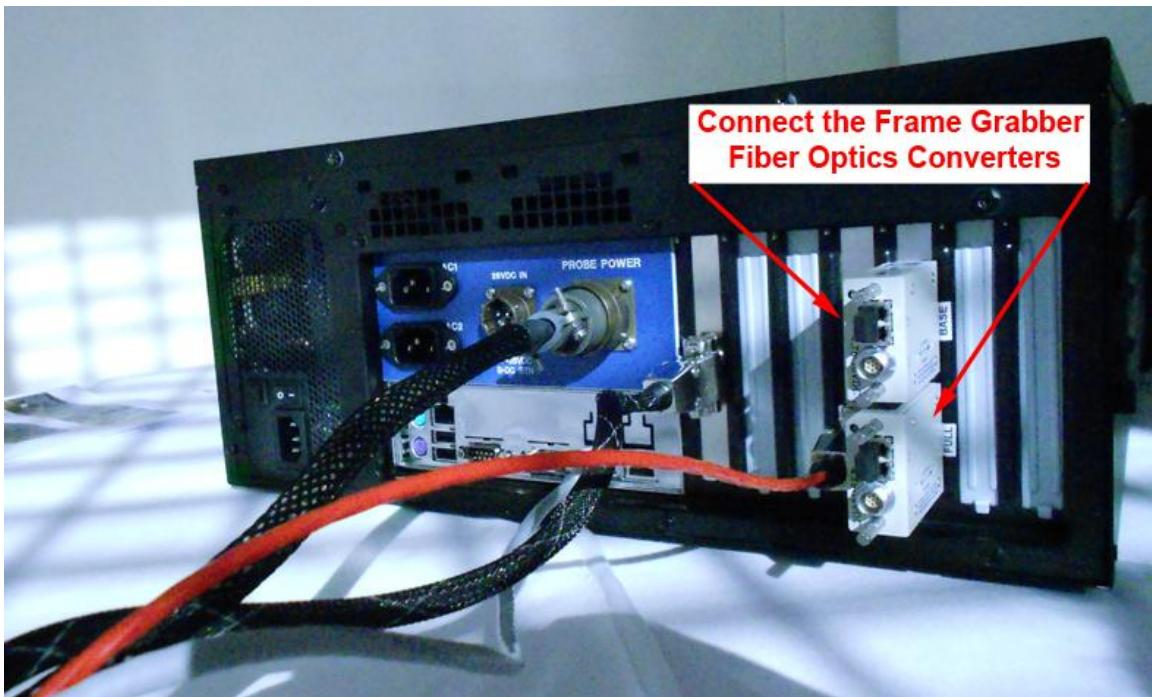

Figure 2.2.6 Connecting the Fiber Converters to the Data Acquisition System
6. Connect the Framegrabber Fiber Optics Converters to J1 on the Data Acquisition System. See **Figure 2.2.6:** Connecting the Fiber Converters to the Data Acquisition System.
5. Connect the sensor camera Fiber Optics to J1 on the Data Acquisition System only. DO NOT connect the other end to the Sensor Head yet. See **Figures 2.2.6-10**.